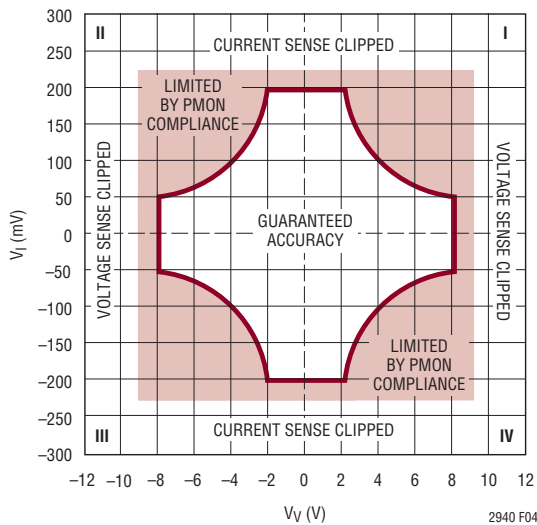
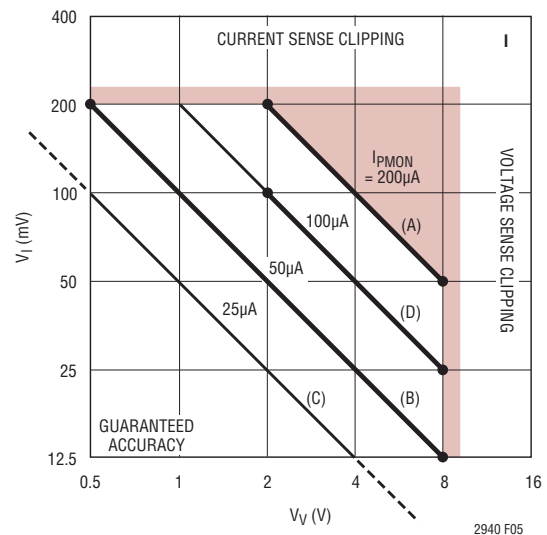

Figure 4. Multiplier Operating Regions vs Sense Input Voltages. Accuracy Is Derated in Shaded Areas
Figure 5. Various Constant-Power Curves in Quadrant I
The operating regions of the four-quadrant multiplier are illustrated in Figure 4. Note that while Figure 2's axes employed logarithmic (octave) scales to allow constant-power trajectories to be straight lines, Figure 4's axes are linear to better accommodate negative inputs. Constant-power trajectories are thus arcs.
Constant-power applications comprise power level alarm circuits, whether tripping a circuit breaker, activating auxiliary circuits, or simply raising an alarm, and single-level power servo loops. In such applications, accuracy is best when the full-scale output current of the LT2940 represents the power level of interest, i.e., the  $I_{PMON} = 200\mu A$  load line (A) on Figure 5. Spans of voltage or current up to 4:1 naturally fit into the operating range of the LT2940.
Special constant-power applications are the same types of circuits (level measuring, servos) with additional restrictions. If operating within the guaranteed accuracy region of Figure 4 is important over voltage or current spans wider than 4:1, let a PMON current less than full-scale represent the power level. For example, the load line (B) of  $I_{PMON} = 50\mu A$  in Figure 5 covers a span of 16:1 ( $V_V = 8V$  to  $0.5V$  and  $V_I = 200mV$  to  $12.5mV$ ). Note that operating along line (C),  $I_{PMON} = 25\mu A$  allows a span of 32:1, but the channel offsets reduce the value of doing so. Operating